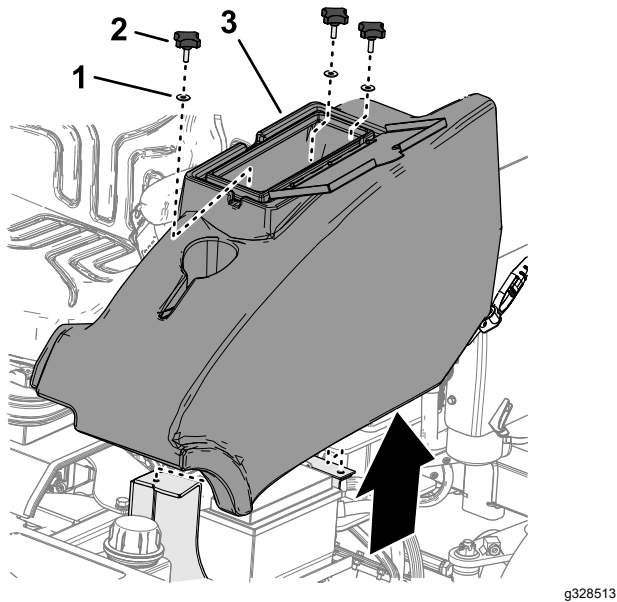

Figure 45
- At the left side of the operator's platform, open the door of the storage compartment (Figure 45).
- Remove the 3 knobs and 3 washers that secure the storage compartment to the machine, and remove the compartment (Figure 45).